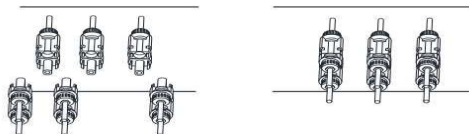

Figure 2.15 The DC connector is inserted into the positive and negative input of the hybrid inverter equipment.
4.Finally, insert the photovoltaic DC connector into the positive and negative input of the Hybrid inverter, as shown in figure 2.15.